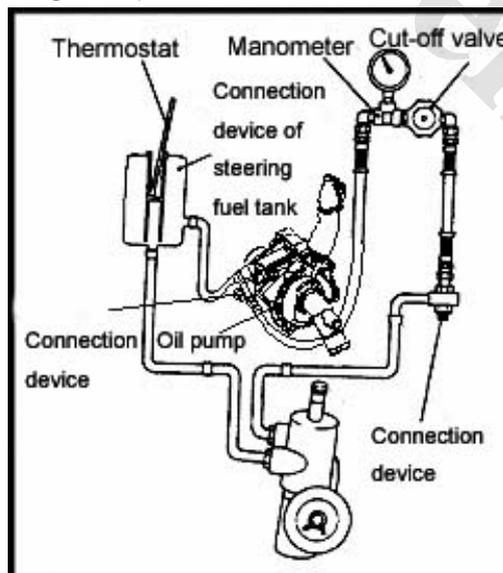

Fig.2-37
① During discharging air, the fluid should be higher than the minimum level of the reservoir. Otherwise, fill more fluid.
② The air will be micronized and dissolved in the fluid if it is discharged with the engine on. Therefore, discharge the air while starting the engine.
③ The fast increasing fluid level after the engine stops indicates an incomplete air discharging.
④ An incomplete air discharging in the system will cause a vibration noise from the pump and abnormal sound from the flow control valve which may affect the service life of the pump and other components.
7. Oil pressure checking (see Fig. 2-37)